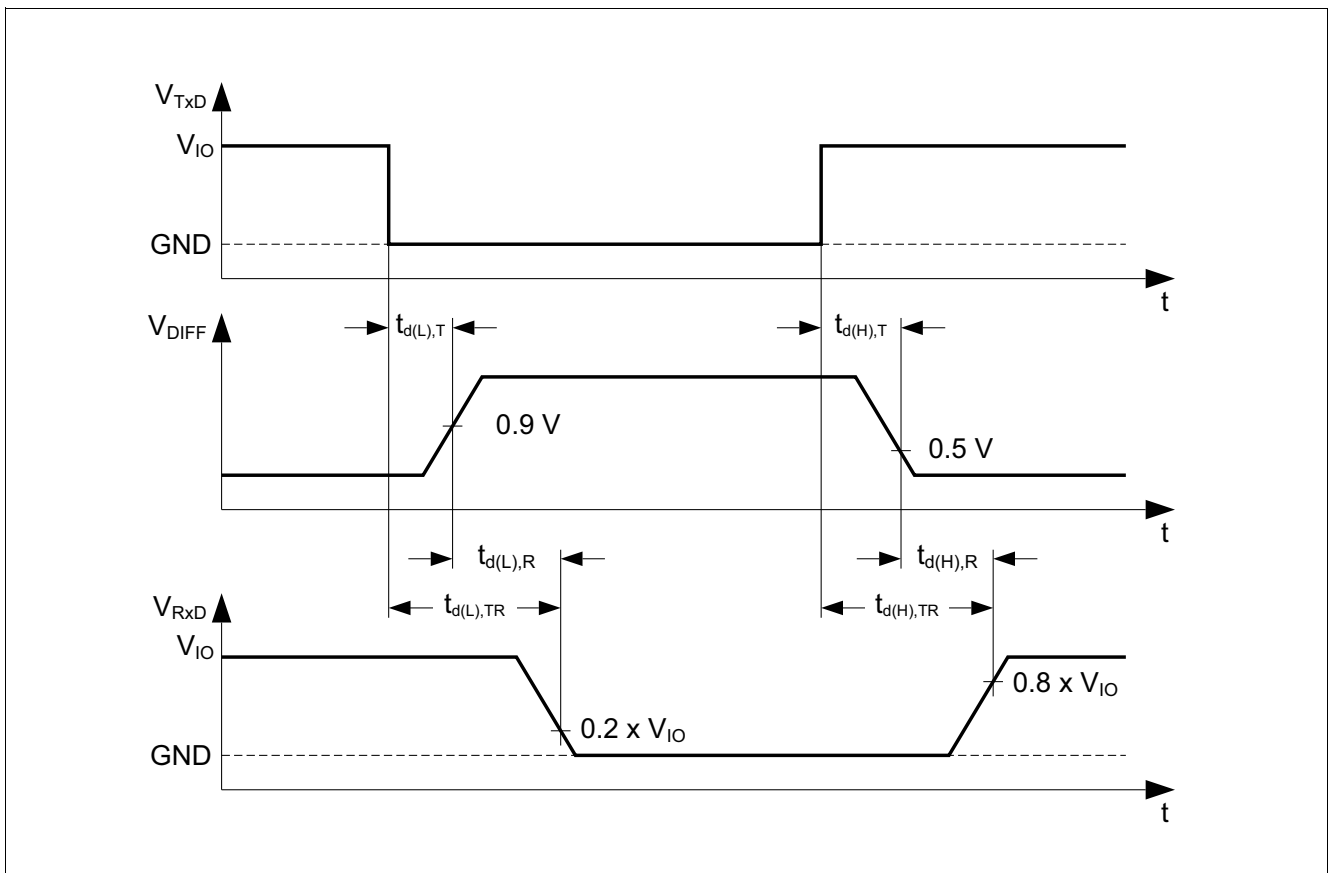

Figure 15 Timing Diagrams for Dynamic Characteristics
| 1.1      | 2011-05-23 | <p>Update Data Sheet Rev.1.1 based on Data Sheet Rev. 1.0:</p> <ul style="list-style-type: none"> <li>• All Pages:correct spelling and grammar.</li> <li>• Update cover page, with new Infineon logo.</li> <li>• Page 7, Figure 3: updated.</li> <li>• Page 9, Figure 4: updated.</li> <li>• Page 18, Figure 10: updated.</li> <li>• Page 20, Figure 11, updated.</li> <li>• Page 22, Figure 13, updated.</li> <li>• Page 25, table 5, pos. 9.2.1:New supply voltage range <math>V_{S(Nom)}</math> from 5.5 V to 18 V.</li> <li>• Page 25, table 5, pos. 9.2.2:New extended supply voltage range <math>V_{S(Nom)}</math> from 5.0 V to 40 V.</li> <li>• Page 26ff, table 7, update table title:New supply range <math>5.5\text{ V} &lt; V_S &lt; 18\text{ V}</math>.</li> <li>• Page 29, table 7, pos. 10.1.58:Changed to typical value.</li> <li>• Page 30, Figure 15: updated.</li> <li>• Page 33, table 8:Change algebraic sign of the negative pulse</li> <li>• Page 33:Add new chapter 11.4</li> </ul> |